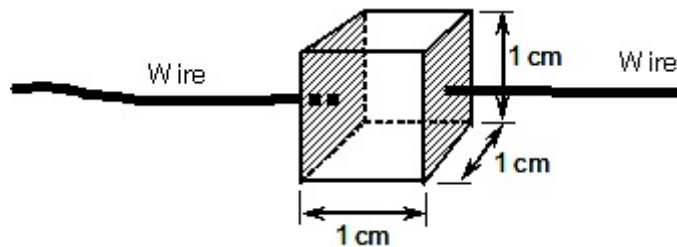

Figure 212.2 Unit resistivity of a material is generally given in ohm•centimeters which is the resistance through a one centimeter cube of the material.
Resistance of Earth, Water, & Biological Materials: There are many materials that will conduct electricity even though the resistivity of the material is quite high. Unit resistivity of materials is typically given in ohm•centimeters. This is the resistance from one side to the other of a cube of the material that is one centimeter on each side as illustrated in Figure 212.2. If the cross-sectional area and length of a material is known along with the resistivity, the resistance of the material can be determined using Equation 212.1, however, **rho (ρ)** is substituted for **K** and has units of ohm•centimeters. Length (L) will be in centimeters and cross-sectional area will be in square centimeters.